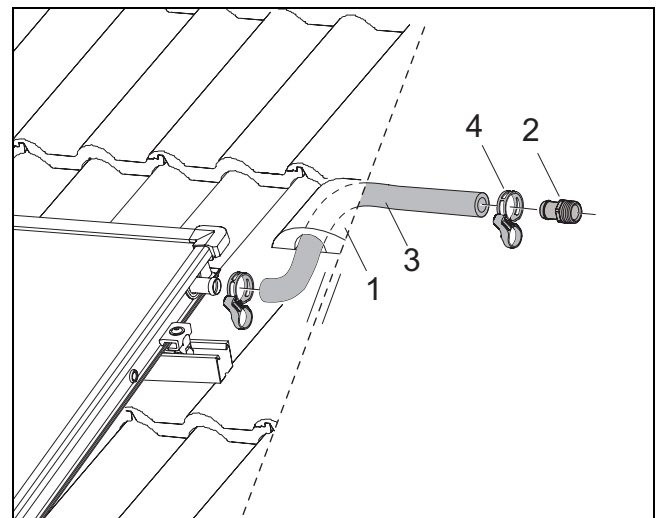

Fig. 48 Assemble the flow pipework (without purging device on the rooftop)
- ▶ Connect the solar hose (1000 mm, Fig. 48, [3]) to the collector array flow connection and secure with hose clip (Fig. 48, [4]).
- ▶ Fit the end of the hose into the solar hose with the threaded locking ring (Fig. 48, [2]) as far as it can go and secure with hose clip.
- ▶ Connect the collector pipe to the end of hose R $\frac{3}{4}$ with threaded locking ring (18 mm) (Fig. 48, [2]). Follow the same procedure for the return connection.